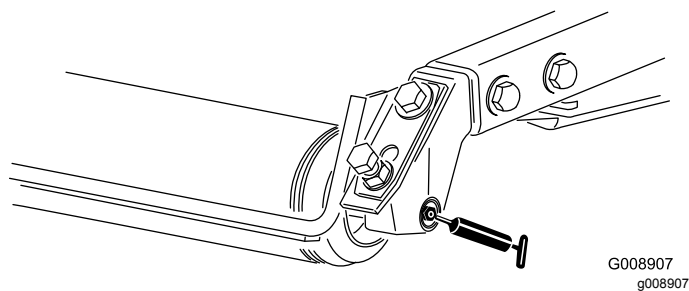

Figure 38
- Rear-roller bearings (2 per cutting unit)—Figure 38